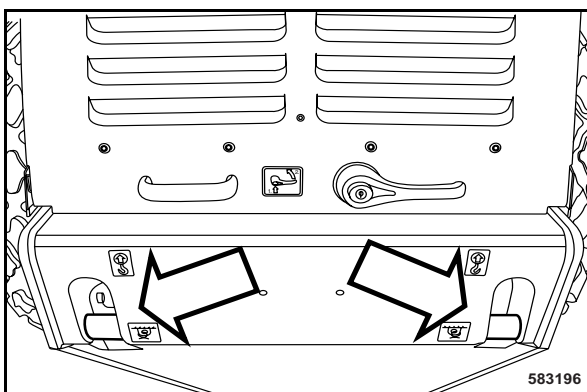

Fig. 109
- Attach chains (Fig. 109) or towing ropes to the lifting points.